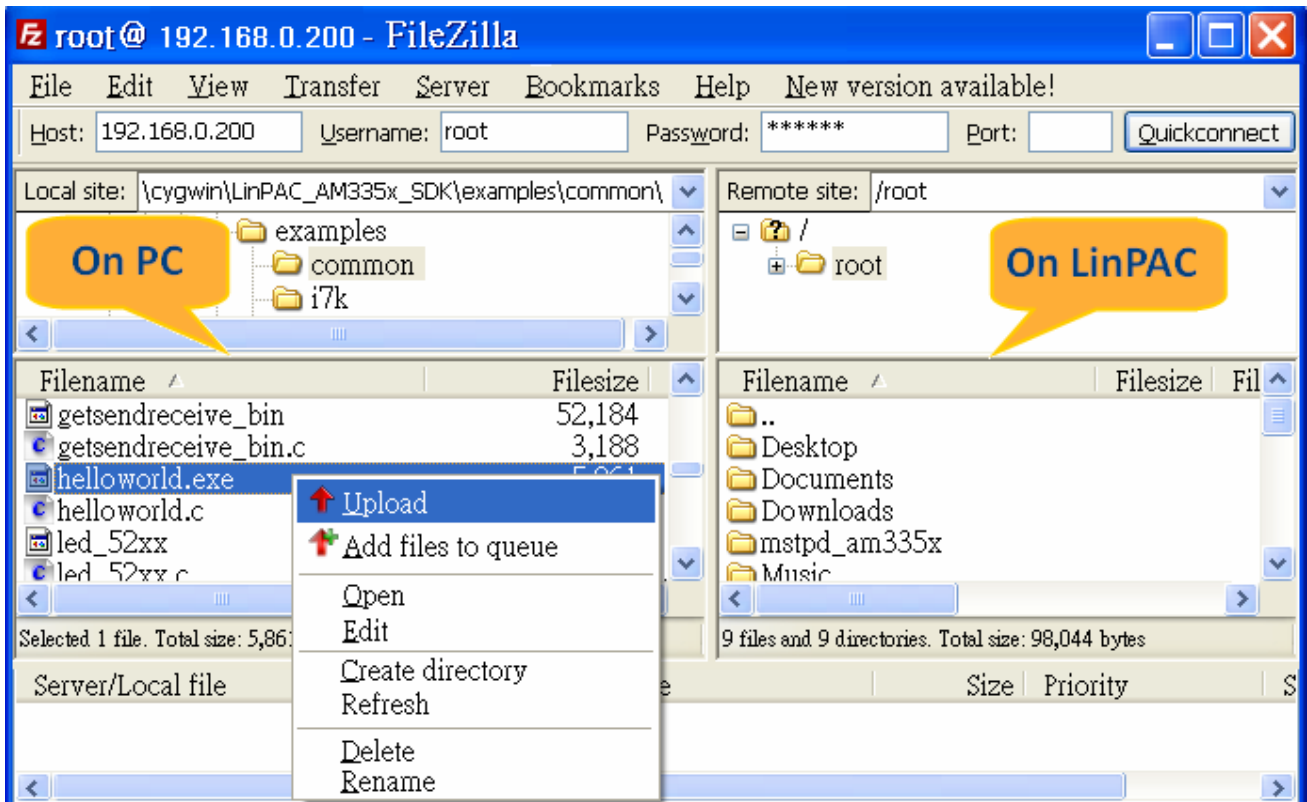

Fig. 5-6
(2) Upload the “**Helloworld.exe**” file to the LP-9x21. (refer to Fig. 5-6).